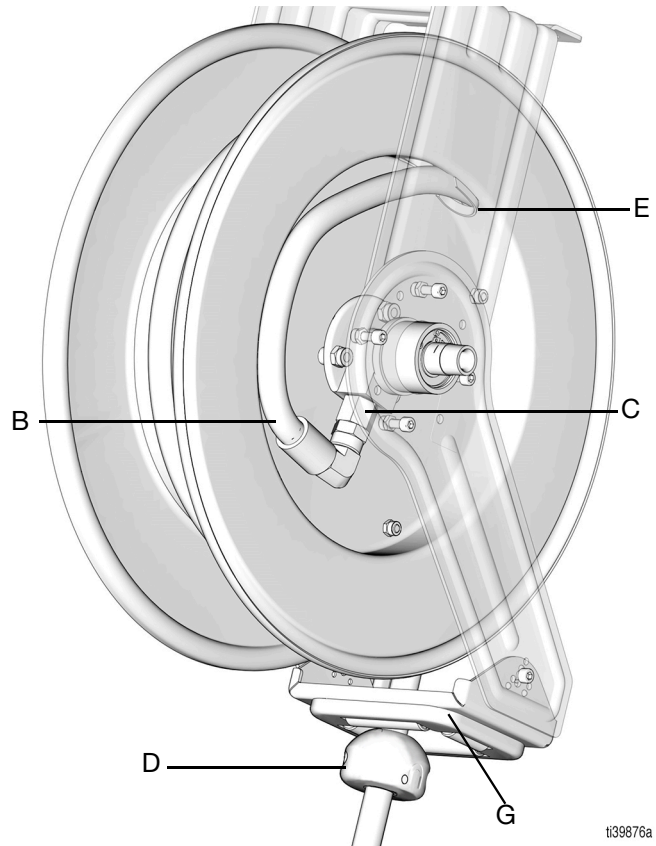

**FIG. 15**
- Install the hose stop (D) to the end of the replacement hose. If the hose has a warning tag (F), the hose stop (D) should be installed on the same end as the warning tag (F) (FIG. 15).